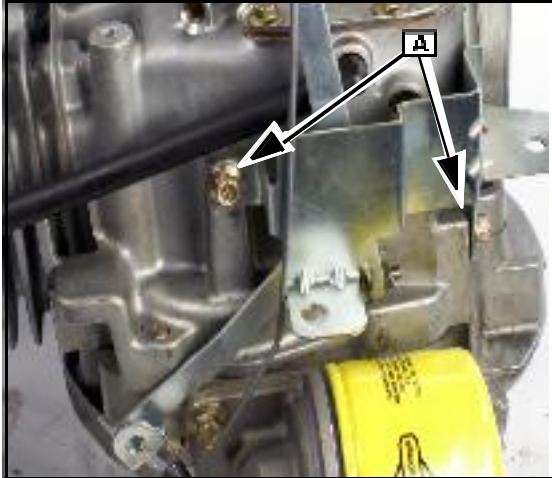

Fig. 11
- Remove the screws holding the control bracket ([A] Fig. 11).